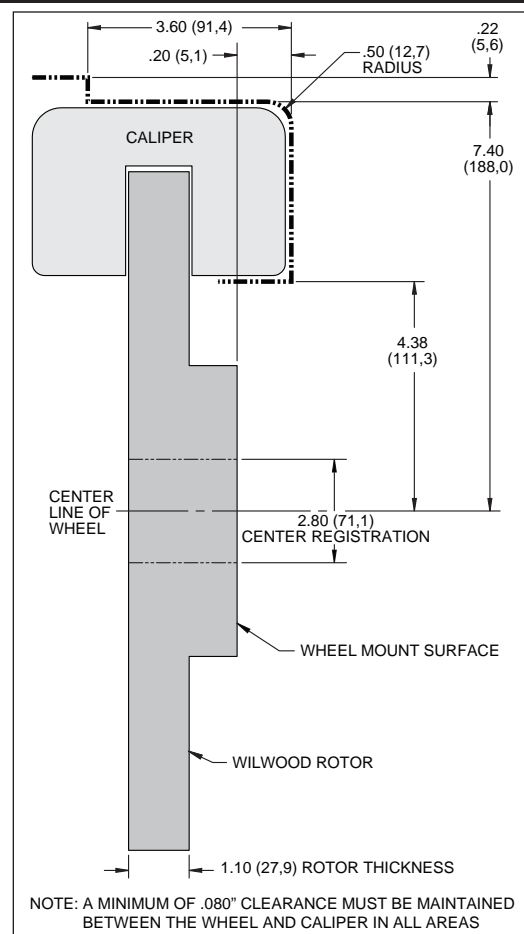

Figure 4. Wheel Clearance Diagram
- Review the wheel clearance diagram (figure 4, page 3) to verify that there is adequate clearance with the wheels you will be using with the installation.